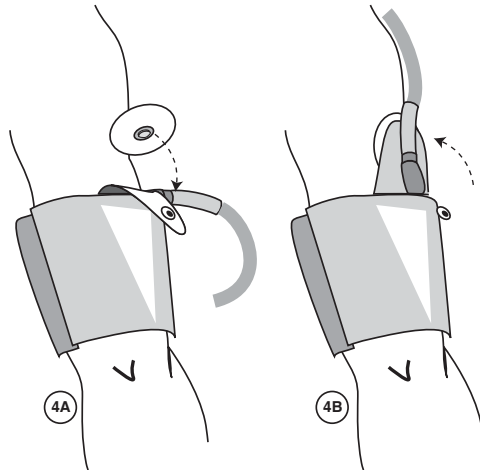

Fig 5 - Clicking an adhesive pad onto the stabilising flap and placing it on the patient's arm
- When the test measurements have confirmed that the microphone is working correctly, click an adhesive patch (ref. D10-8073) onto the stabilising flap behind the air tubing and place it on the patient's arm to ensure that the cuff stays in place during the whole of the monitoring (Fig 5).